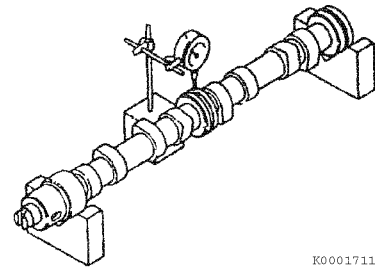

Figure 6-124
1. Use V-blocks and a dial indicator to check camshaft bend (**Figure 6-124**). Place the indicator on the center bearing journal.